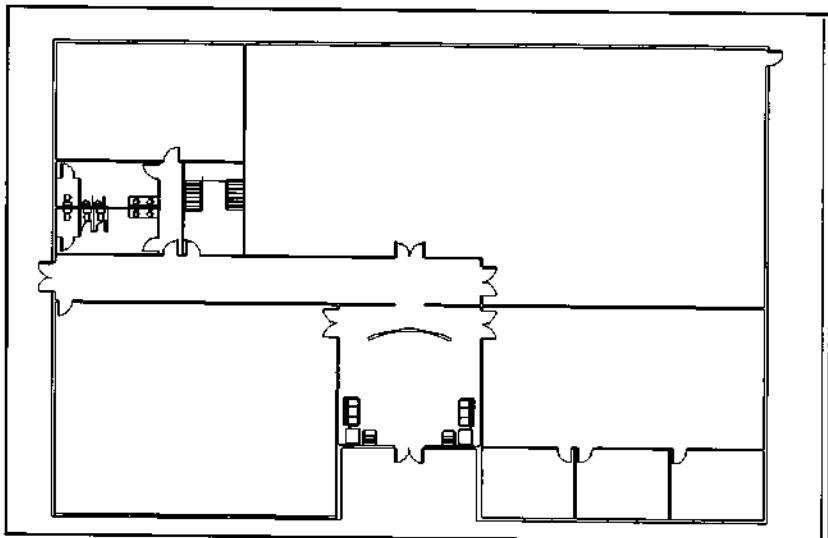

Figure 2.
5. If your plan drawing looks like Figure 2, use the Modify Layers command on the Modes menu to turn on the roof layers.